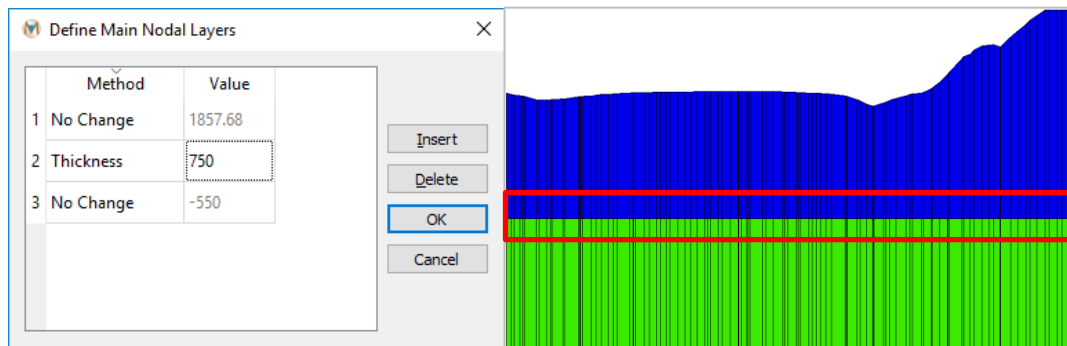
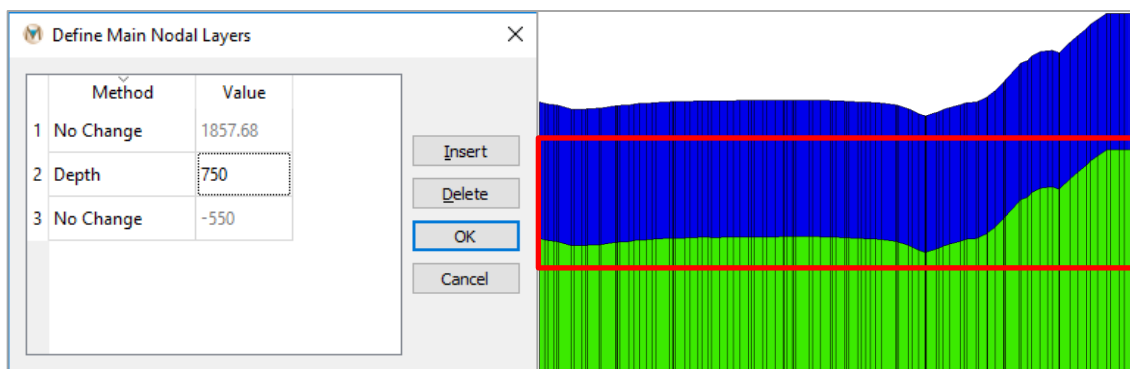

Figure 7.7. Layer definition using the “Thickness” method
Figure 7.8. Layer definition using the “Depth” method
- **Thickness:** The “Thickness” option will create a nodal layer (shown within the red box) that is offset by a user-specified value from the nodal layer immediately below, as seen in Figure 7.7. This creates an element layer with elements of uniform thickness. Figure 7.7 displays a nodal layer that has a constant elevation and an element layer of uniform thickness; however, it is possible to create a nodal layer that does not have a constant elevation but that forms an element layer of uniform thickness. This occurs when the reference nodal layer does not have a constant elevation.
- **Depth:** The “Depth” method is similar to the “Thickness” method, with the exception that the upper nodal layer (rather than the lower nodal layer) is used as the reference layer to calculate the location of the nodal layer that is being added. In contrast to the nodal layer with uniform elevation, shown in Figure 7.7, the nodal layer in Figure 7.8 does not have a uniform elevation because the upper nodal layer that was used as the reference to calculate the location of the new nodal layer did not have a uniform elevation.